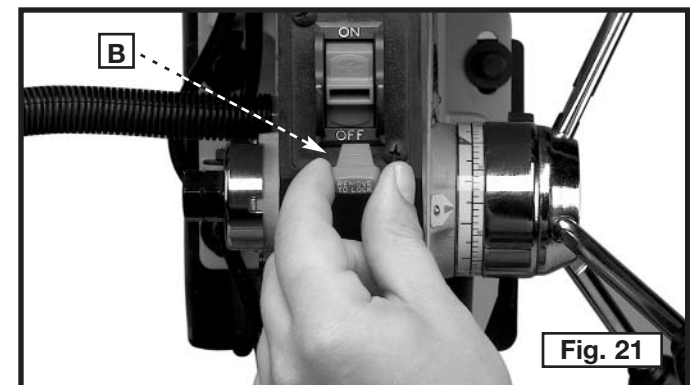

Fig. 21
**IMPORTANT:** When the machine is not in use, the switch should be locked in the “OFF” position to prevent unauthorized use. Grasp the switch toggle (B) and pull it out of the switch (Fig. 21). With the switch toggle (B) removed, the switch will not operate. However, should the switch toggle be removed while the drill press is operating, the switch can be turned “OFF” once, but cannot be restarted without inserting the switch toggle (B).